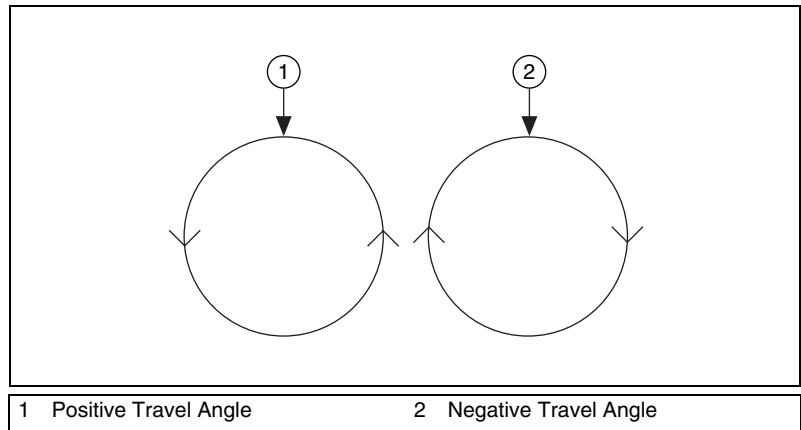

Figure 6-3. Positive and Negative Travel Angles
- **Travel Angle**—Indicates how far the arc travels in a 360° circle. For example, a travel angle of 90° executes a quarter-circle, a travel angle of 360° creates a full circle, and a travel angle of 720° creates two full circles. A positive travel angle always creates counterclockwise circular motion. A negative travel angle reverses the direction to create clockwise circular motion, as shown in Figure 6-3.